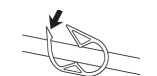

Figure 4: Open
4. Open all clamps on the connector hose and the pad (Figure 4).